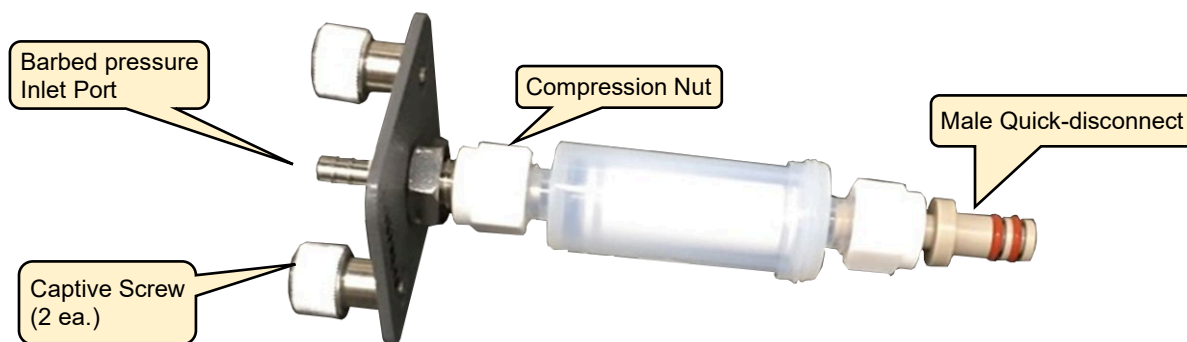

Figure 44: Pressure Inlet Filter Assembly – Removed from Housing
4. Remove the old filter from the bulkhead assembly by loosening the compression nut (Figure 44). Remove the ferrules and discard.